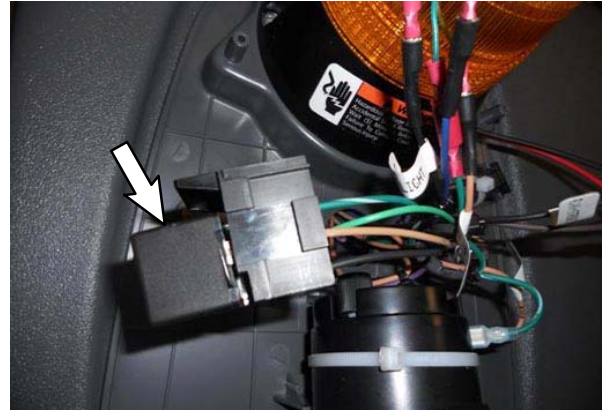
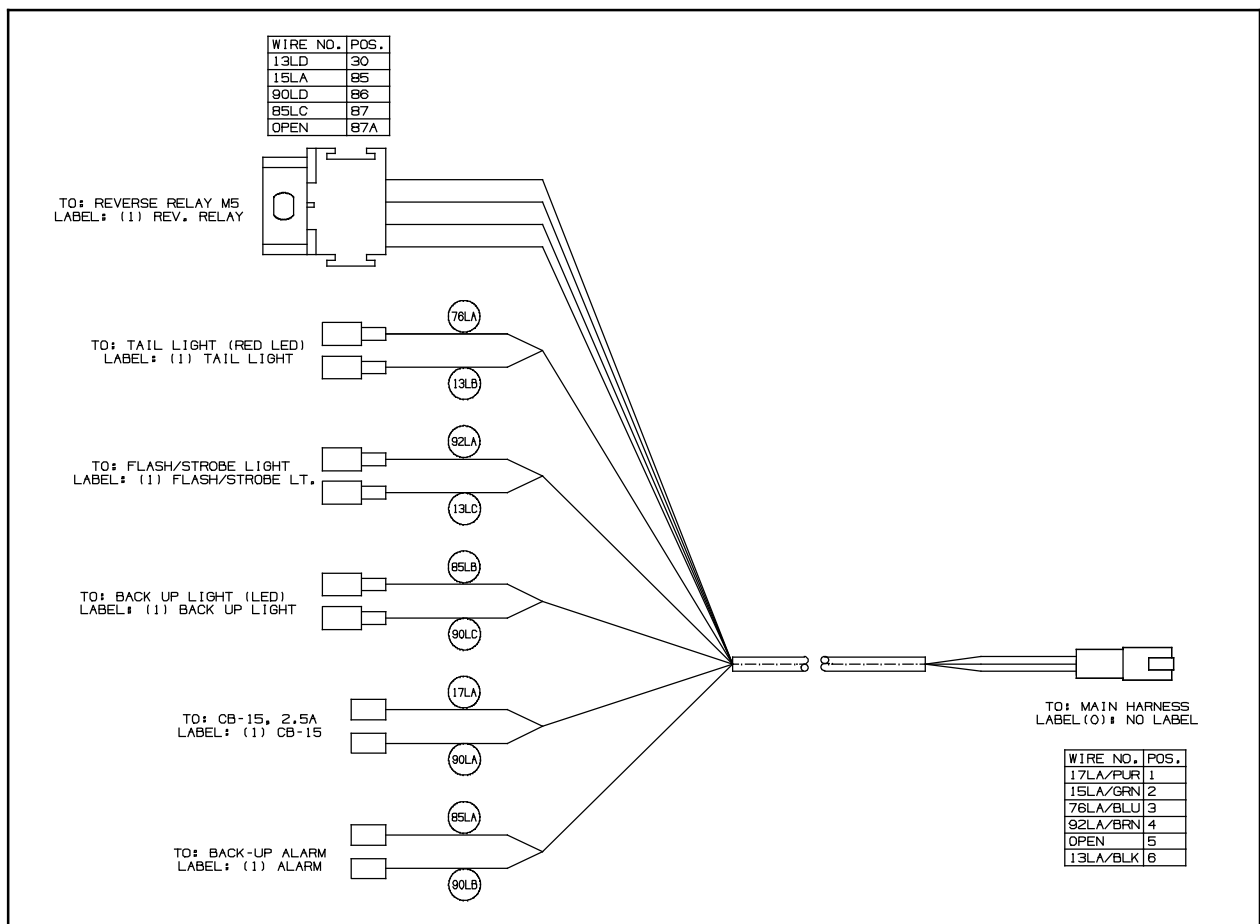
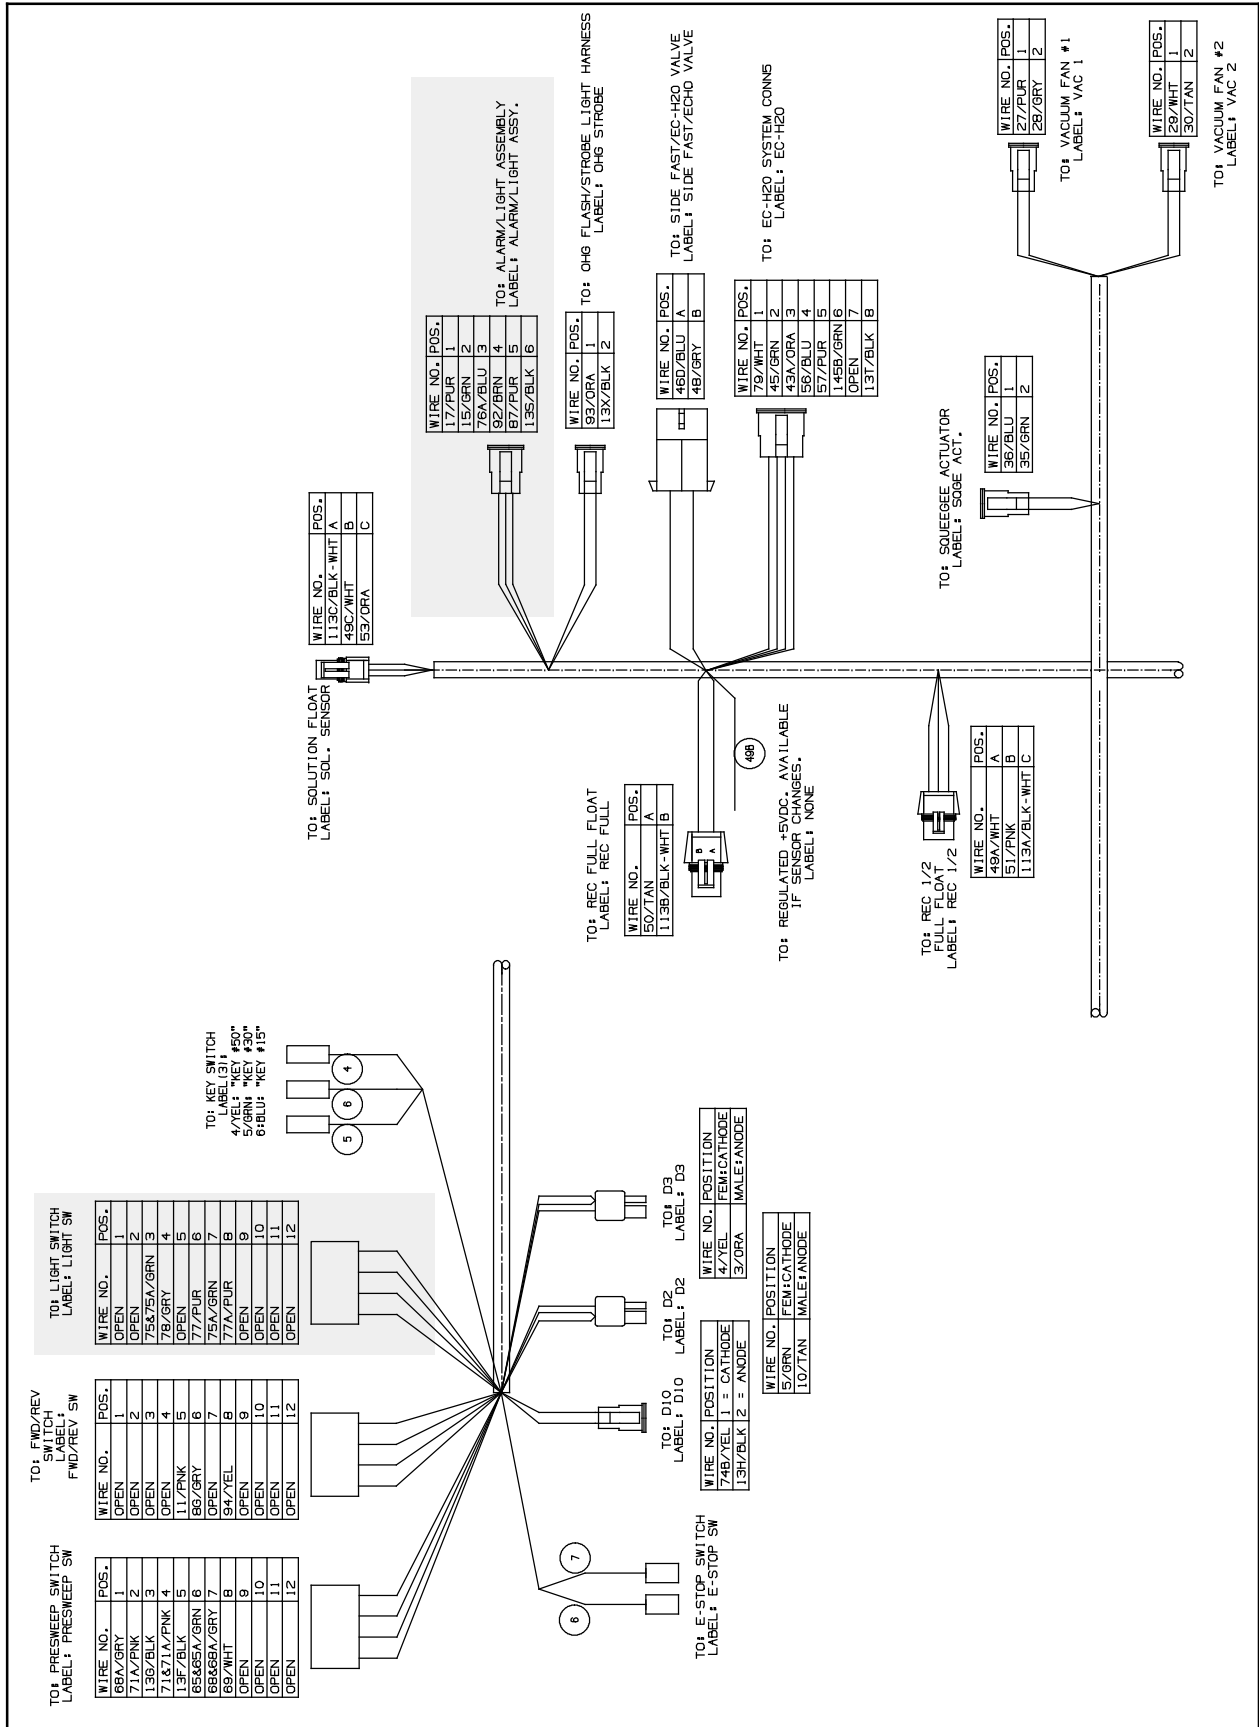
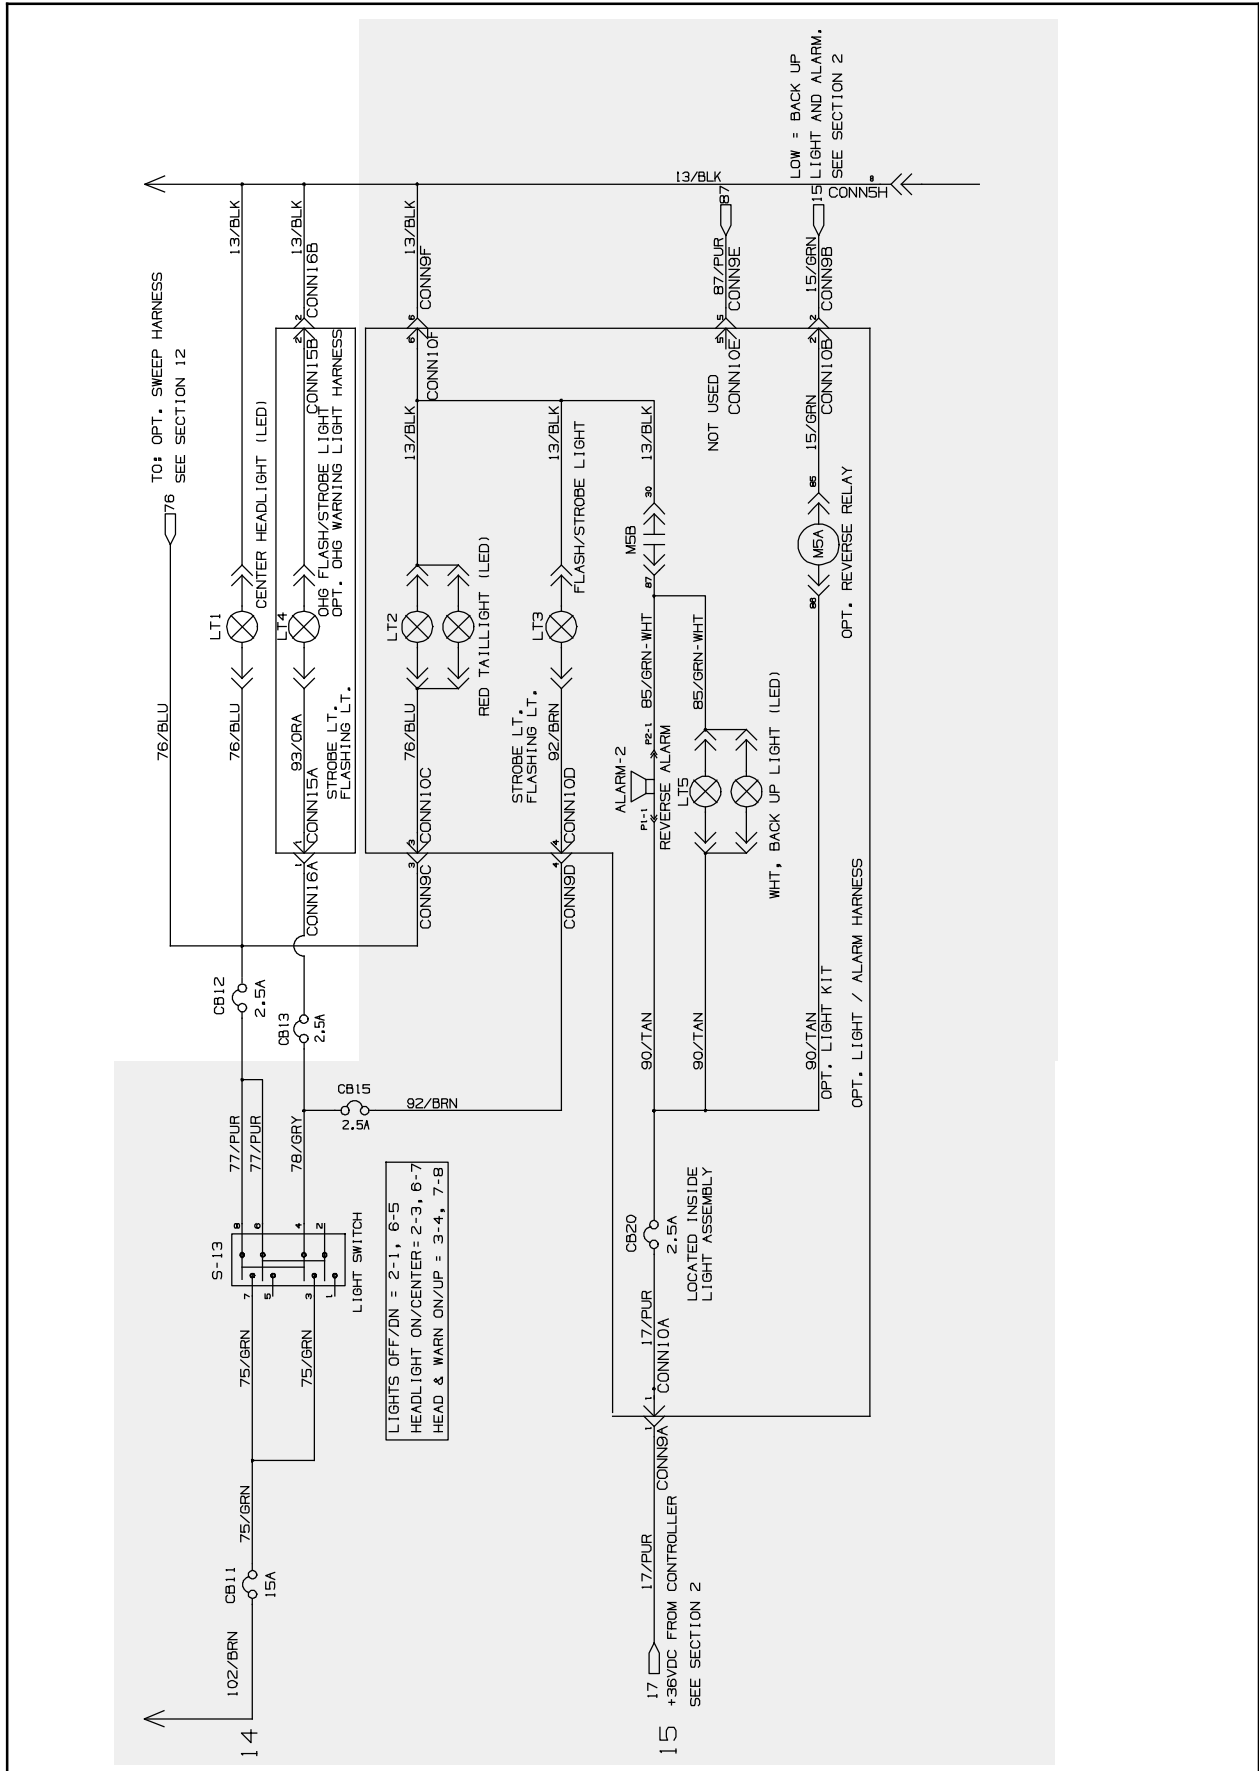

FIG. 7
FIG. 8
FIG. 9 - Main Wire Harness
FIG. 10 - Schematic
12. Route the alarm / light wire harness (10) down behind the operator seat and connect the alarm / light wire harness to the main wire harness connector located behind the operator seat. (Fig. 8 / Fig. 9)
13. Connect the alarm / light wire harness (10) to the light (1), backup alarm (4), and the 2.5 Amp circuit breaker (8). (Fig. 8 / Fig. 9)
14. Plug the 36VDC relay (12) into the alarm / light wire harness (10). (Fig. 7 / Fig. 8)
16. Connect the alarm / light wire harness (10) to both LED light assemblies (19). (Fig. 8 / Fig. 10)
22. Connect the main wire harness to the switch (21). (Fig. 9)